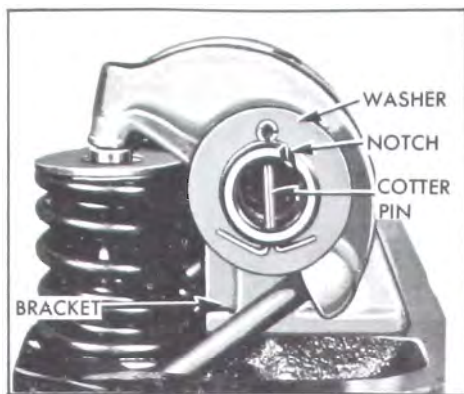

Figure 2-24—Rocker Arm Shaft End View
5. Install bolts with plain washers through brackets and shaft so that the notch on one end of shaft is upward in line with bolt heads. This places the oil holes on lower side of shaft in proper relationship to rocker arms. See Figure 2-24.
(4) Install locking plates with exhaust manifold bolts, tighten bolts only to 10-15 ft. lbs. torque, then bend one tab of plate against a flat on each bolt head.
(5) When rocker arm and shaft assembly is installed, make certain that the notch in one end of shaft is upward in line with bracket bolt heads. See Figure 2-24.
(6) Install intake manifold gaskets so pointed end of each gasket is "IN" toward center of engine.
(7) After installation is completed and engine has been warmed up to operating temperature, recheck cylinder head bolts for 65-75 ft. lbs. torque.